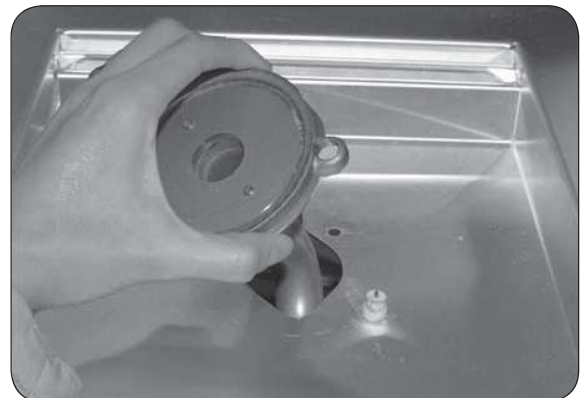
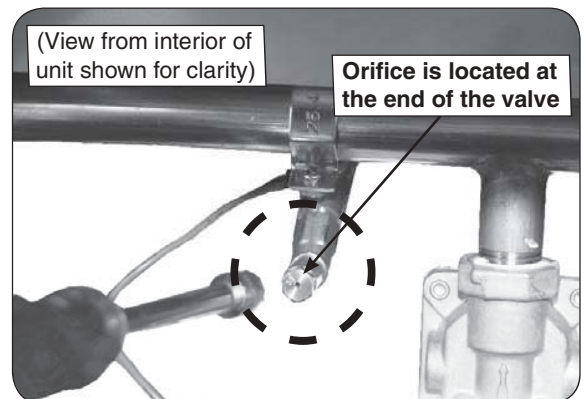

Fig. 24-2 Remove burner
Fig. 24-3 Orifice location
4. Remove the burner cap and carefully lift the burner up and out, clearing the ceramic electrode (see Fig. 24-2), and pulling the burner tube away from the orifice, located on the end of the orifice holder on the left side of the unit (see Fig. 24-3).
5. Using a 3/8" socket, remove orifice from the orifice holder (see Fig. 24-3) and check the number stamped on the orifice face.